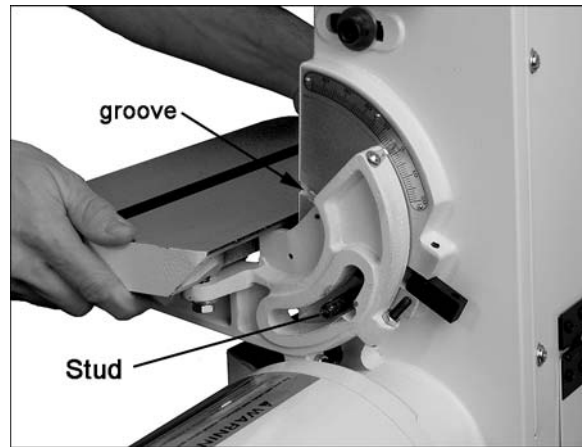

Figure 14
2. Guide the belt table trunnion onto the stud, as shown in Figure 14. The raised track on the trunnion must fit into the groove on the belt arm.